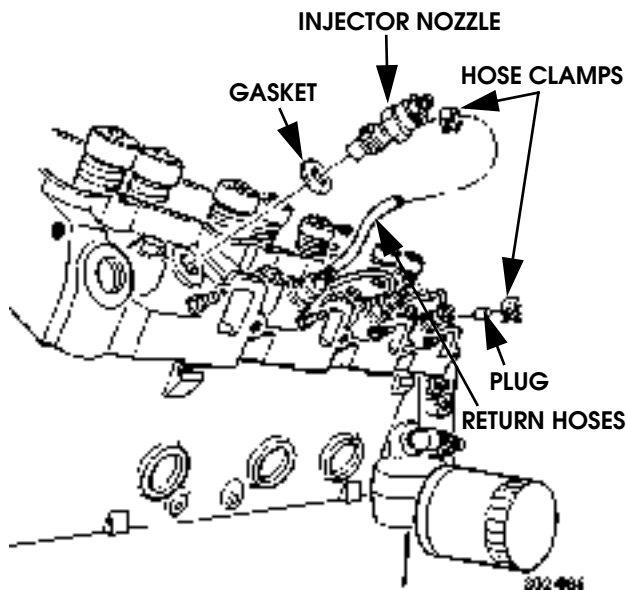

Figure 2-179: Fuel Injector Nozzle Installation
2. Install gasket on each injector nozzle (Figure 2-179).